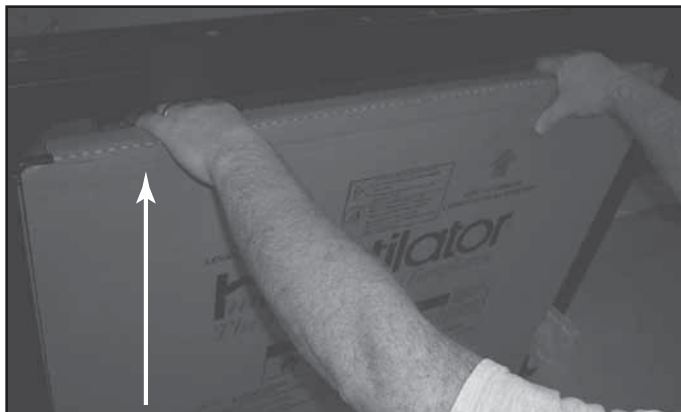

Figure 11.2 Lift up on Screen Package
- Grasp the top of the screen package and lift up to remove. See Figures 11.2 and 11.3.